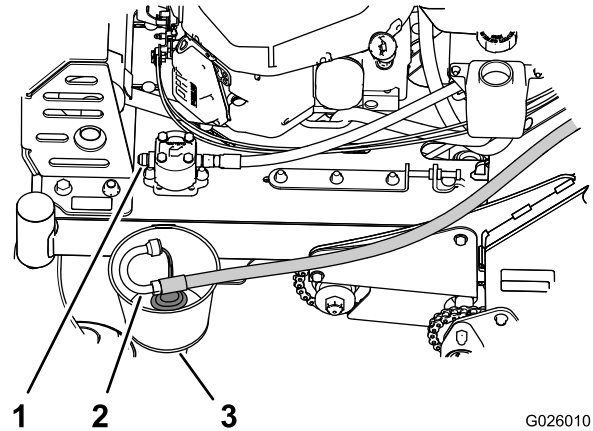

Figure 62
- At the front of the auxiliary hydraulic pump, remove the inlet hose from the hydraulic fitting in the pump, place the end of the hose in a drain container, and allow the fluid to drain (Figure 62).